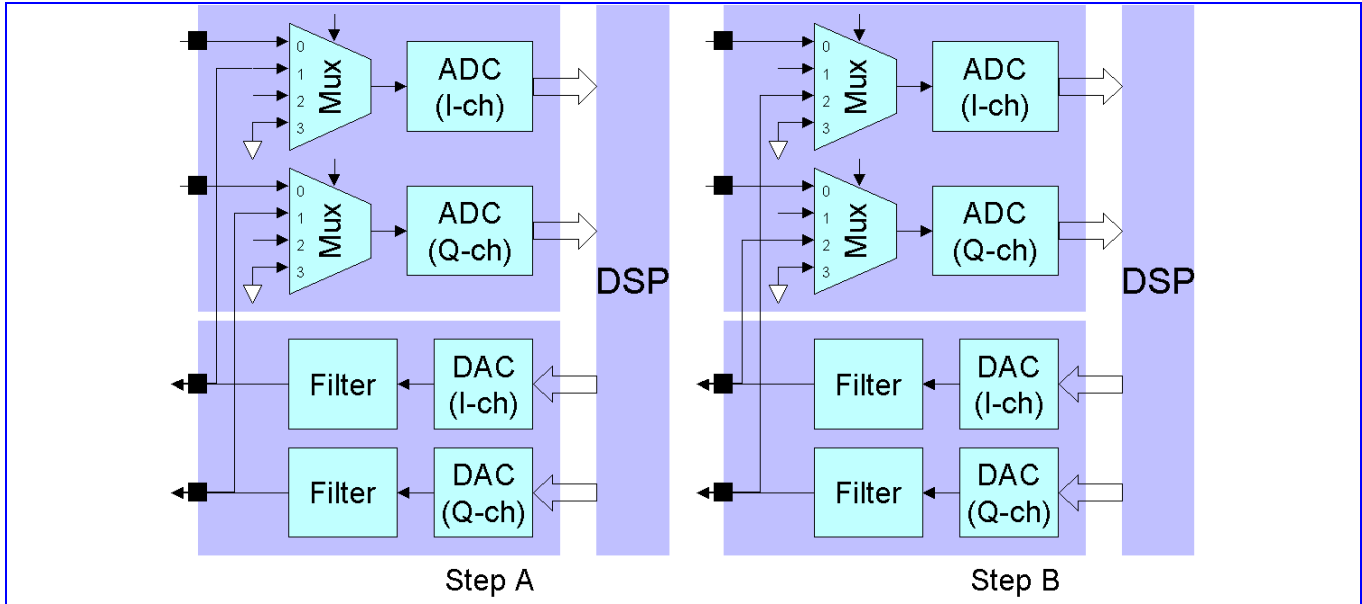

Figure 108 Downlink RX and Up-link TX Gain Mismatch Measurement (A) I/Q TX connect to I/Q RX (B) I/Q TX connect to Q/I RX
- A. The uplink I-channel output are connected to the downlink I-channel input, and the uplink Q-channel output are connected to the downlink Q-channel input. This can be achieved by setting **ISEL [1:0]** = '01' and **QSEL [1:0]** = '01' (shown in **Figure 108 (A)**).
- B. The uplink I-channel output are then connected to the downlink Q-channel input, and the uplink Q-channel output are connected to the downlink I-channel input. This can be achieved by setting **ISEL [1:0]** = '10' and **QSEL [1:0]** = '10' (shown in **Figure 108 (B)**).